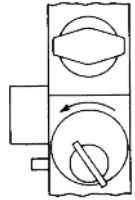
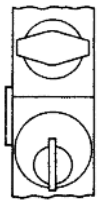

Figure 3-7
Figure 3-8
**B.** To allow the latch to return to lock mode, reinsert and turn the key to the left (counterclockwise) to the stop position (**See Figure 3-7**). Return the key to the pull position and remove (**See Figure 3-8**).